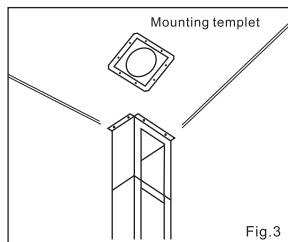

Fig.3
3. After marking the mounting templet, remove and keep it, make exact size (6" or 7") of exhaust duct on the ceiling. (Fig.3)